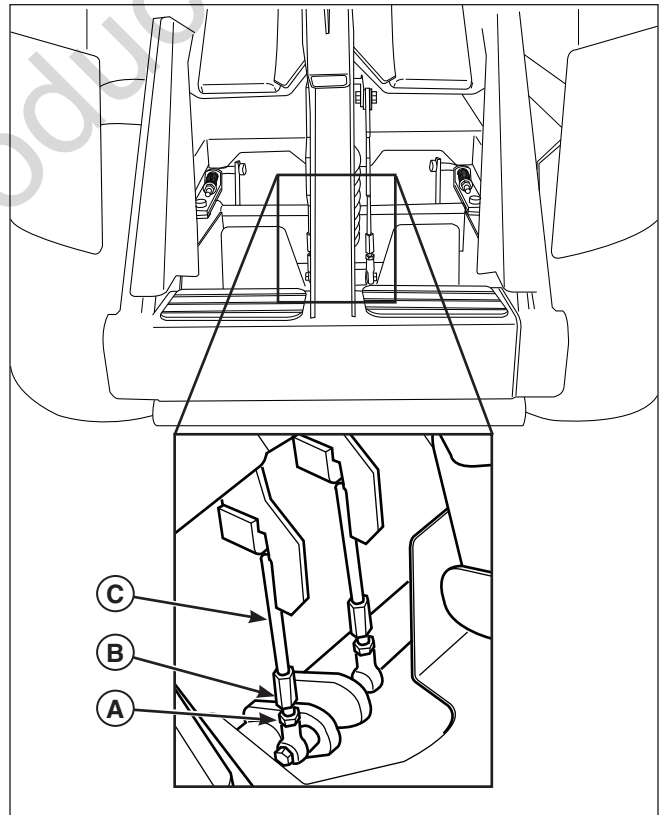

Figure 28. Neutral Adjustment
2. Loosen the jam nut (**A**, **Figure 28**).